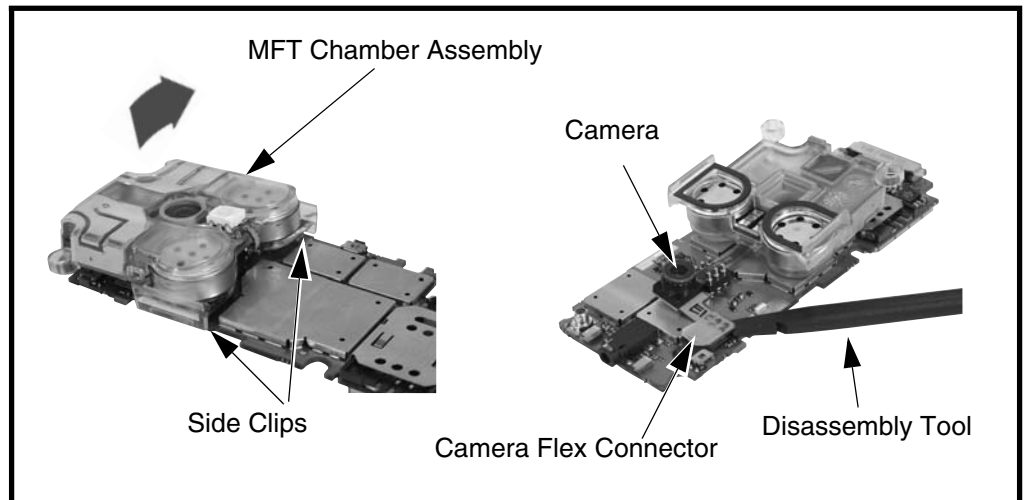

Figure 15. Removing and Replacing the MFT Chamber Assembly
2. Disengage the two plastic MFT Chamber assembly side connectors from the transceiver PC board and lift up the MFT Chamber assembly as shown in Figure 15.